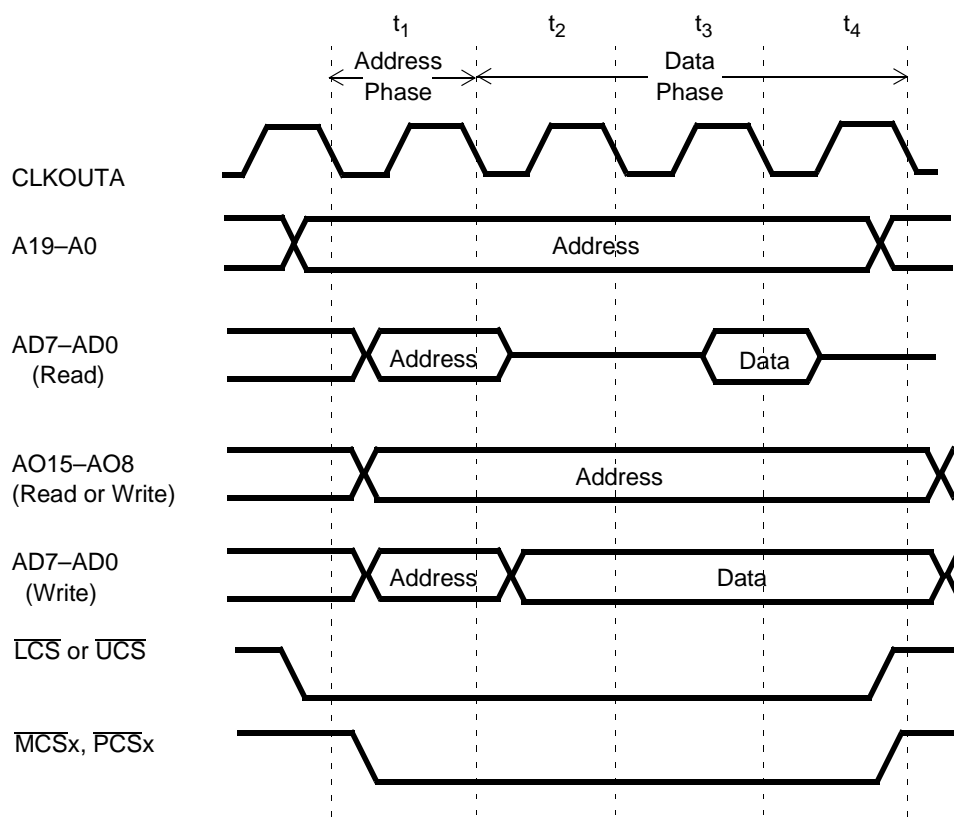

Figure 6. Am188ES Microcontroller Address Bus—Normal Read and Write Operation
- Figure 6 shows the affected signals during a normal read or write operation for an Am188ES microcontroller. The multiplexed address/data mode is compatible with the 80C186 and 80C188 microcontrollers and might be used to take advantage of existing logic or peripherals.